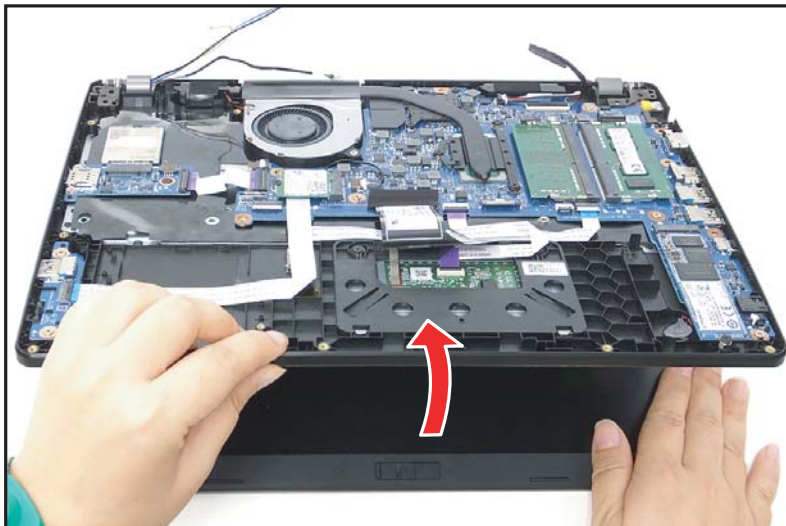

Figure 1-36. LCD Module Removal
10. Place the device on a flat surface, top assembly facing up (Figure 1-36).
11. Lift the top assembly until it is fully open (Figure 1-36).